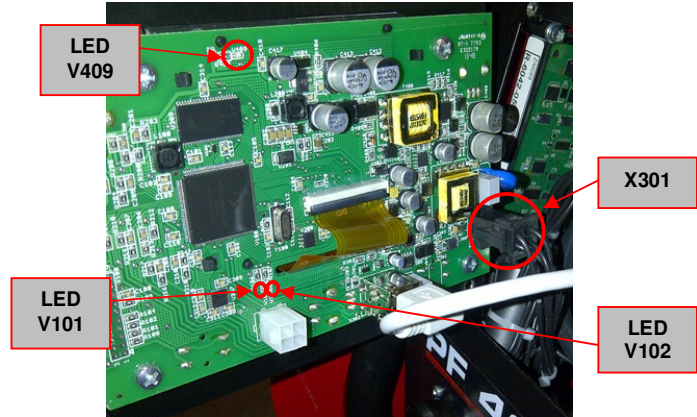

Figure 1c – User Interface component side
3. Do not unplug the User Interface board from the Power Feeder. Keep it connected as indicated in **Figure 1c**.
6. Locate the User Interface board connector **X301** and using the multimeter perform the tests as indicated in **Test Table 1**. See **Figure 1c**.